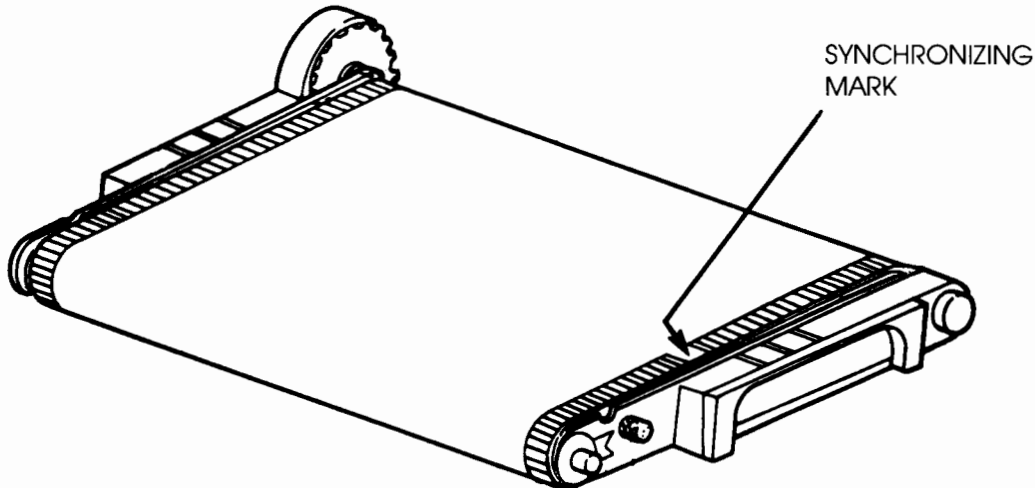

Figure 4-26. Checking the Synchronizing Mark
- m. Remove the protective sheet from the OPC belt and check to see that the synchronizing mark on the OPC belt is on the opposite side from the drive gear (see figure 4-26). If the mark is on the wrong side, re-install the OPC belt so that the mark is on the opposite side.